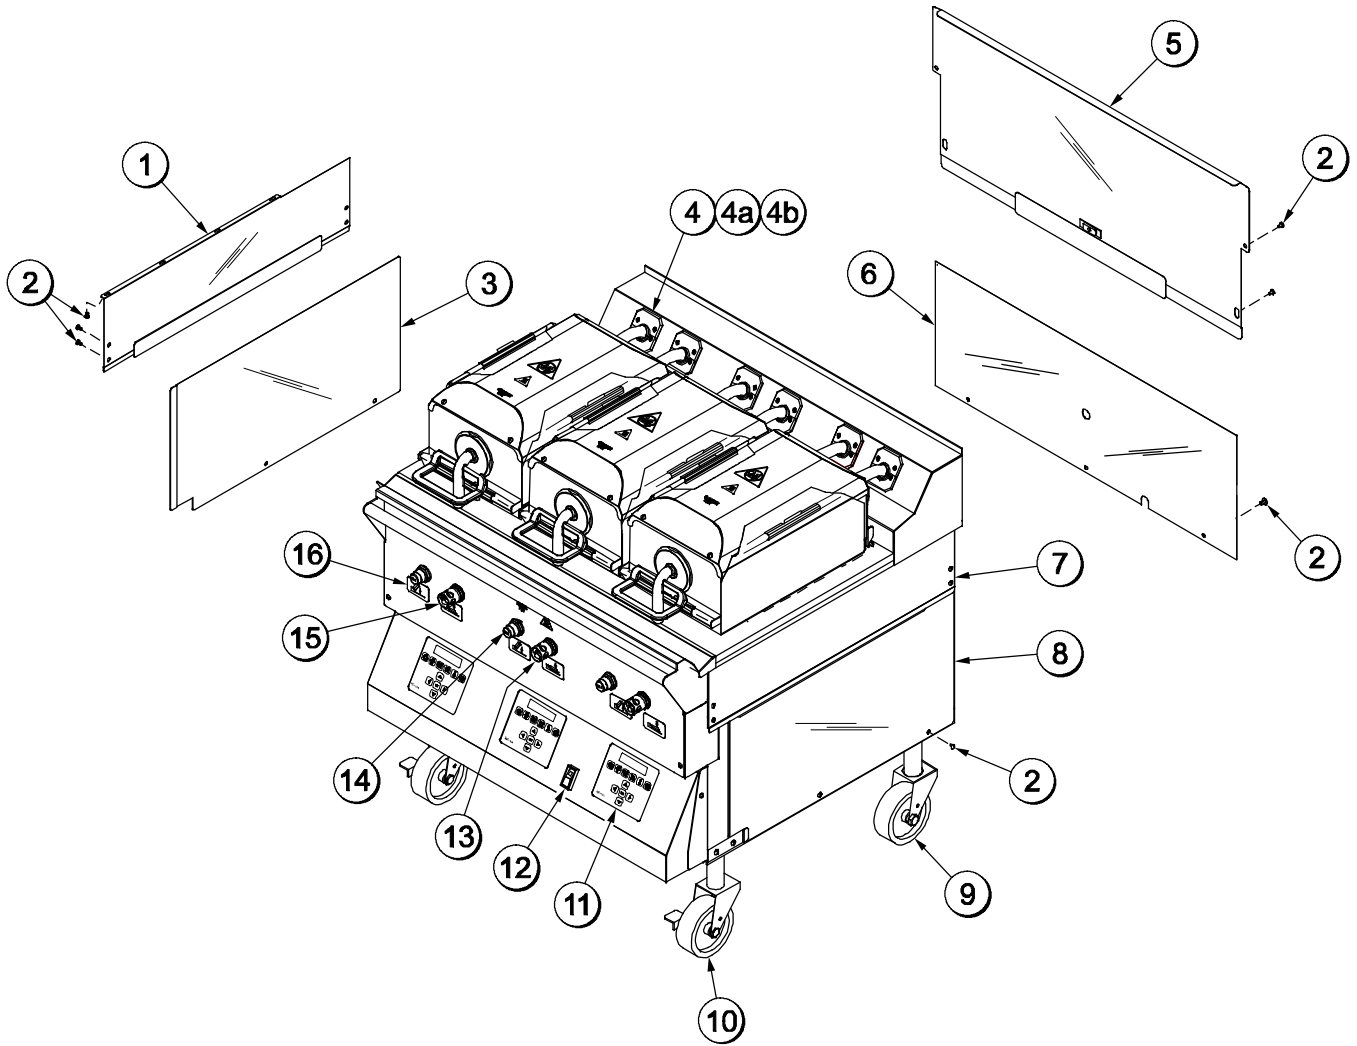

Figure 2
**C844 Exploded View (See Figure 2.)**